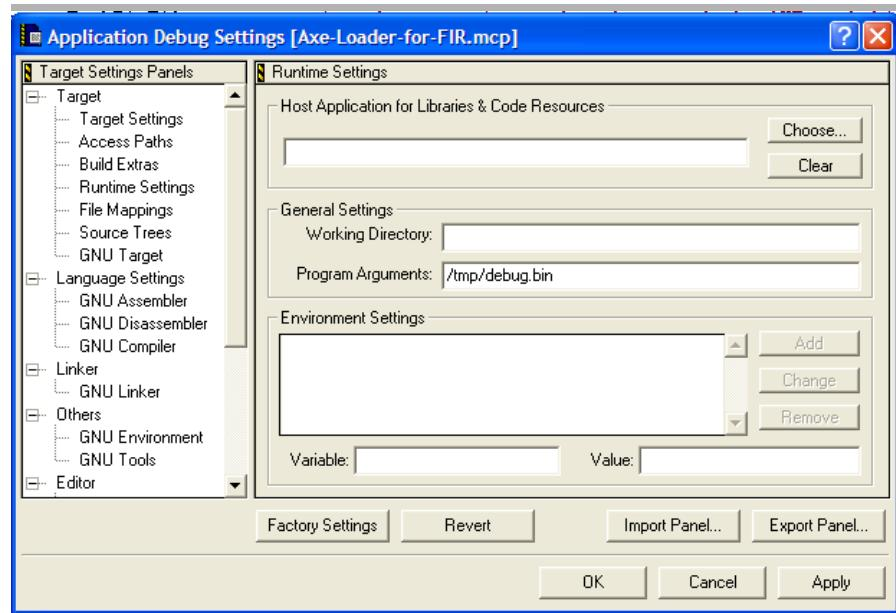

Figure 14. Setting the Program Arguments
4. Type the filename and path within your NFS of your AXE-scheduler FIR-filter task in the Program Arguments text file (see Figure 14). For example: /tmp/debug.bin.